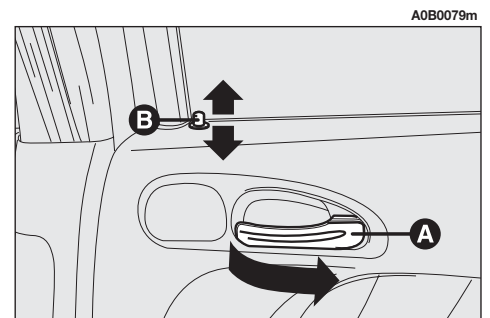

fig. 3
– To open the door pull the handle (**A-fig. 3**).
– To close it, press the knob (**B-fig. 3**) also with the door open, then shut the door.